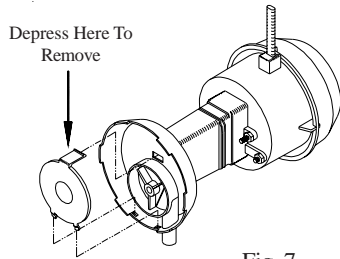

Fig. 7
- **Clean pump.** Cleaning the pump is necessary once a year at start-up. For your safety, turn unit off and unplug from power receptacle. Remove the pump from the mount slot. Remove the base of the pump as shown in Fig. 7. Clean the pump and turn the impeller to ensure free operation. Remove the pump spout and check for any blockage. After cleaning, reinstall the base onto the pump. Reattach the pump to the mount in the cooler using the plastic retainer to ensure that the pump will not overturn. Do not forget to replace the spout and water delivery tube onto the pump outlet. The pump has automatic reset thermal protection.